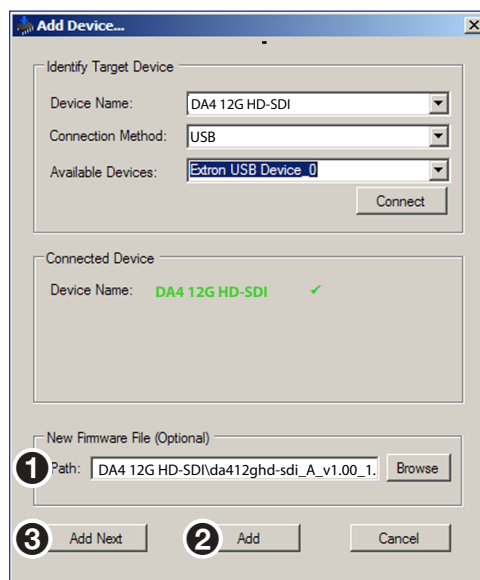

Figure 22. Path to the New Firmware File on the Add Device Window
On the **Add Device** window, the path to the new firmware file is displayed in the **Path** field (see figure 22, ①).
11. If this is the only device to which firmware is being uploaded to, click **Add** (see figure 22, ② on the previous page). The distribution amplifier information is added to the **Device** section of the **Firmware Loader** window and the **Add Device** window closes.